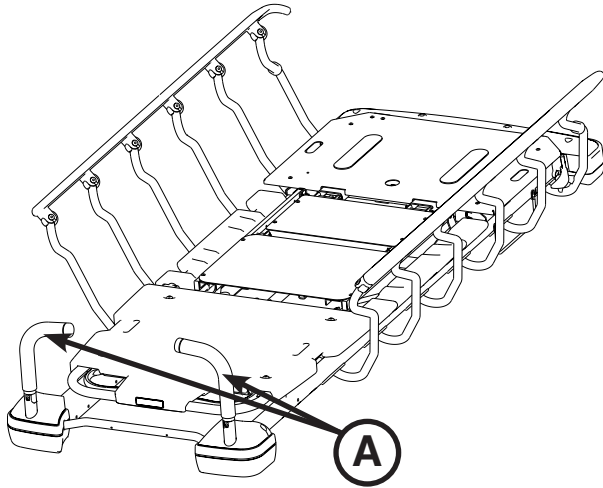

Figure 17: Head End Push Handles Open
To use the push handles, pivot the handles (A) up and push down until they are locked into position (Figure 17).